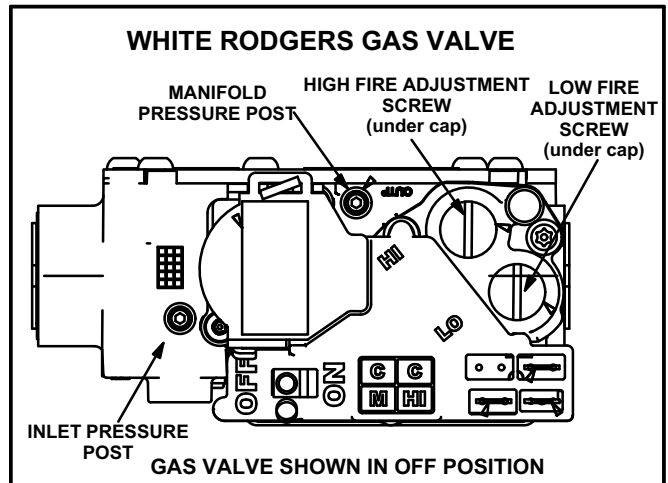

Figure 7
- 2 - Remove the access panel. Move the automatic gas valve switch to **OFF**. See figure 7.
- 6 - Move the switch on the gas valve to **OFF**. Do not force the switch. See figure 7.
An inlet pressure post located on the gas valve provides access to the supply pressure. See figure 7. Back out the 3/32 hex screw one turn, connect a piece of 5/16 tubing and connect to a manometer to measure supply pressure. Check the unit on high fire. On multiple unit installations, check the unit separately and with the other units operating. See table 1 for supply line pressure. Following the supply pressure check, turn off unit, remove manometer and tighten post hex screw.
A manifold pressure post located on the gas valve provides access to the manifold pressure. See figure 7. Back out the 3/32 hex screw one turn, connect a piece of 5/16 tubing and connect to a manometer to measure manifold pressure.
- 4 - After allowing unit to stabilize for 5 minutes, record low fire manifold pressure and compare to value given in table 1. If necessary, make adjustment. Figure 7 shows location of low fire adjustment screw.
- 5 - Repeat on high fire and compare to value given in table 1. If necessary, make adjustment. Figure 7 shows location of high fire adjustment screw.
- 1 - Connect test gauge to manifold pressure post (figure 7) on gas valve.
- 4 - If necessary, make adjustments. Figure 7 shows location of high fire and low fire adjustment screws.